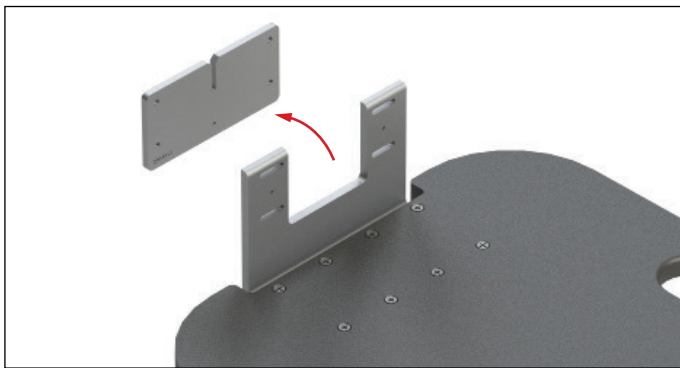

Fig. 3
3. Remove the Phillips Phantom Holder Plate (2004063) and replace with the Siemens Phantom Holder Plate (2006959) ensuring that the chamfered edge of the plate is facing inward (Fig. 3 & 4).